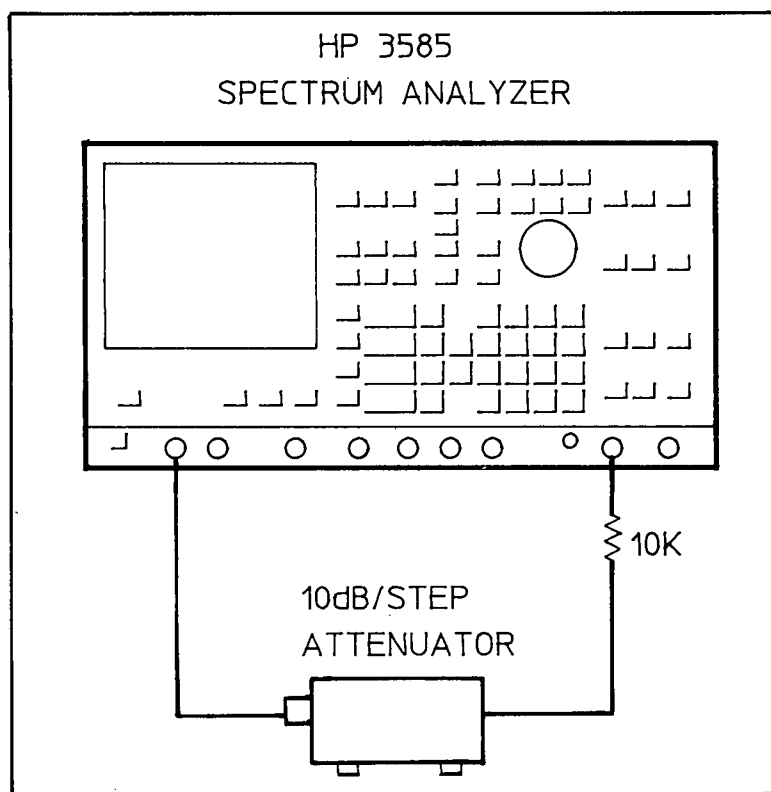

Figure 5-42 1MΩ Input Capacitance Adjustment Set-Up
b. Replace the 50 $\Omega$  termination with a 10k $\Omega$  series resistor ( $\pm 1\%$ , 1/8, HP Part Number 0757-0442). This resistor should be connected as shown in Figure 5-42. Use short clip leads to connect the resistor to the attenuator and the 3585 1M $\Omega$  input.